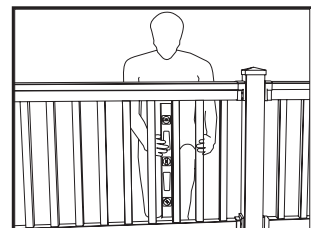

Fig. 6
10. Level balusters vertically and place 1 1/4" (provided) locking screw through the top bracket and into the top rail. Repeat for bottom rail. **NOTE: Only one side (top rail and bottom rail) needs to be secured. There are extra (2 ea.) 1 1/4" and (1 ea.) 2 1/2" stainless screws provided. (FIG.6)**